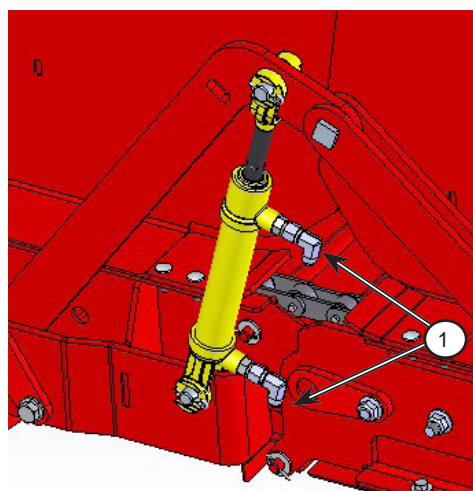

Figure 2.3: Lift cylinder on a LH flip up conveyor
- a. As an example, *Figure 2.3* shows the connection points (1) on a LH flip up conveyor lift cylinder.